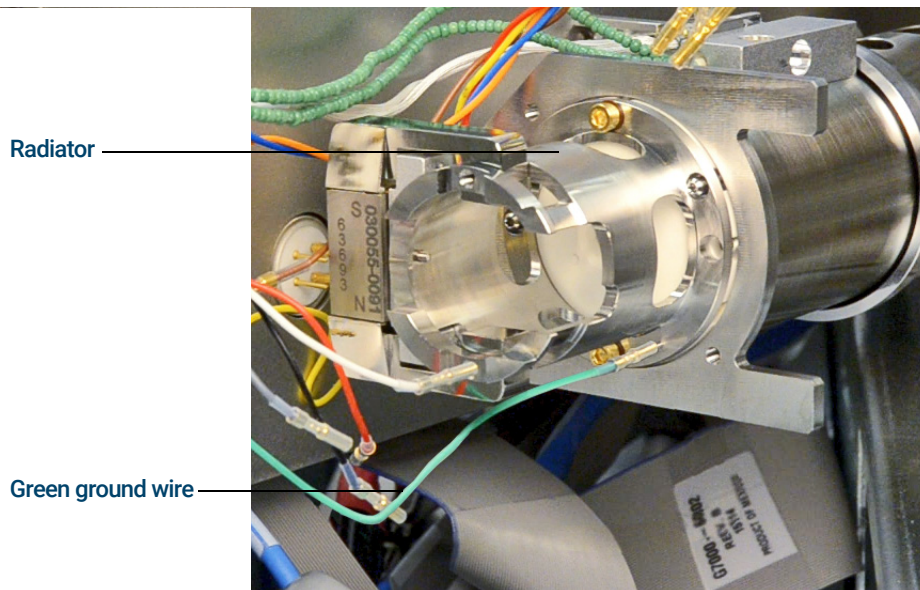

Figure 75 CI Source radiator
- 2 Disconnect the green ground wire from the radiator. (See **Figure 75**.)